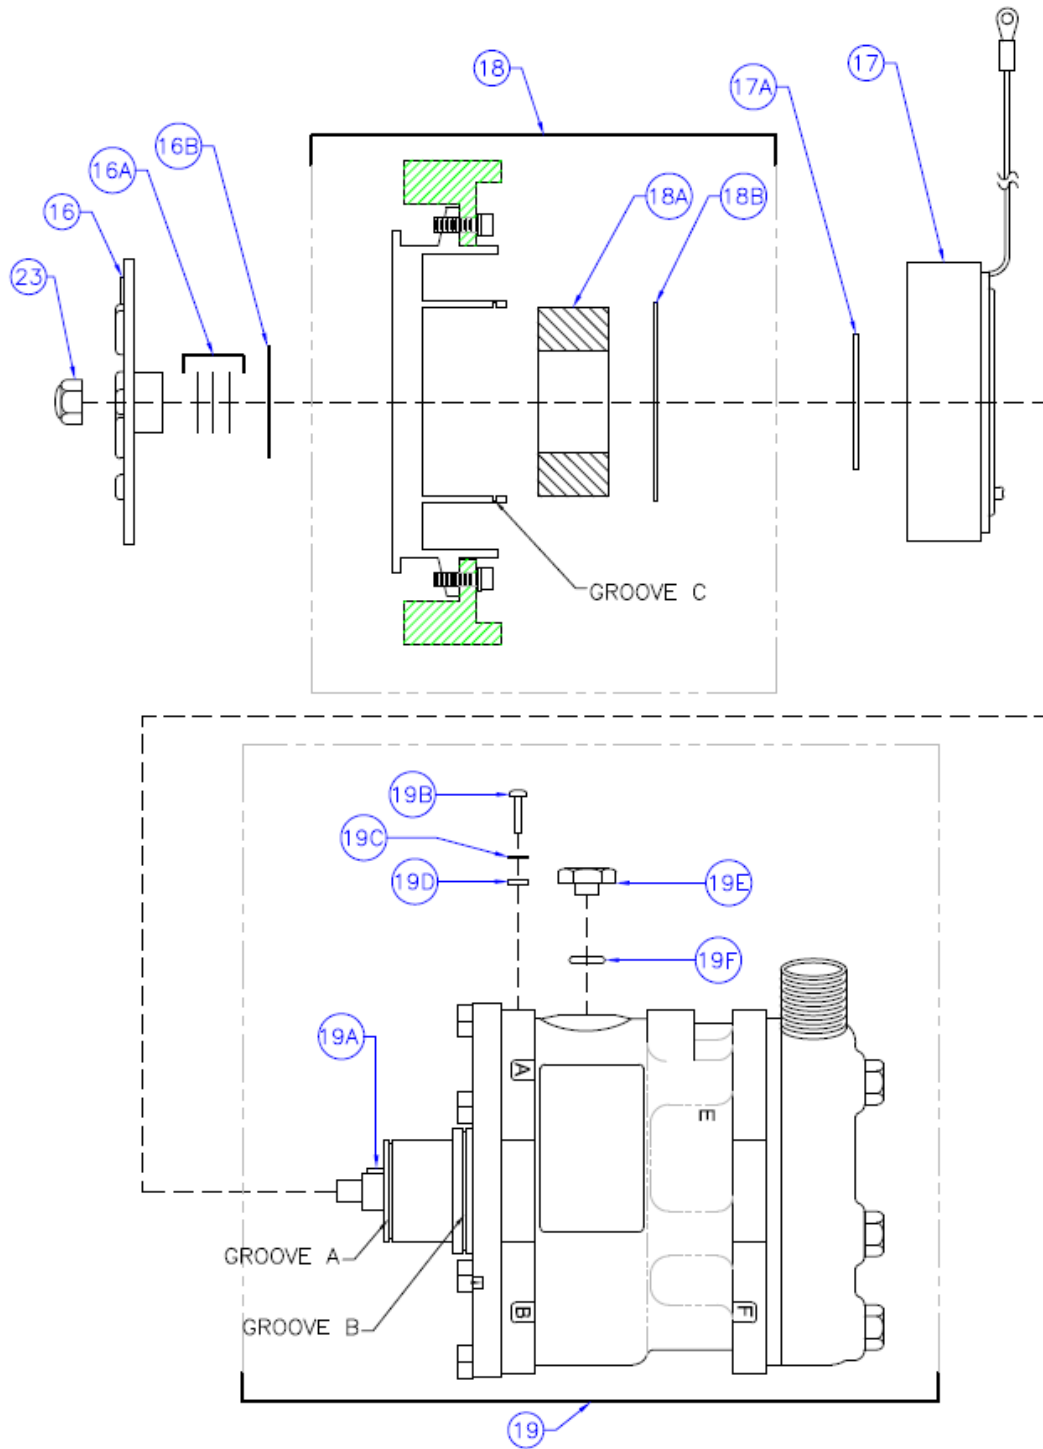
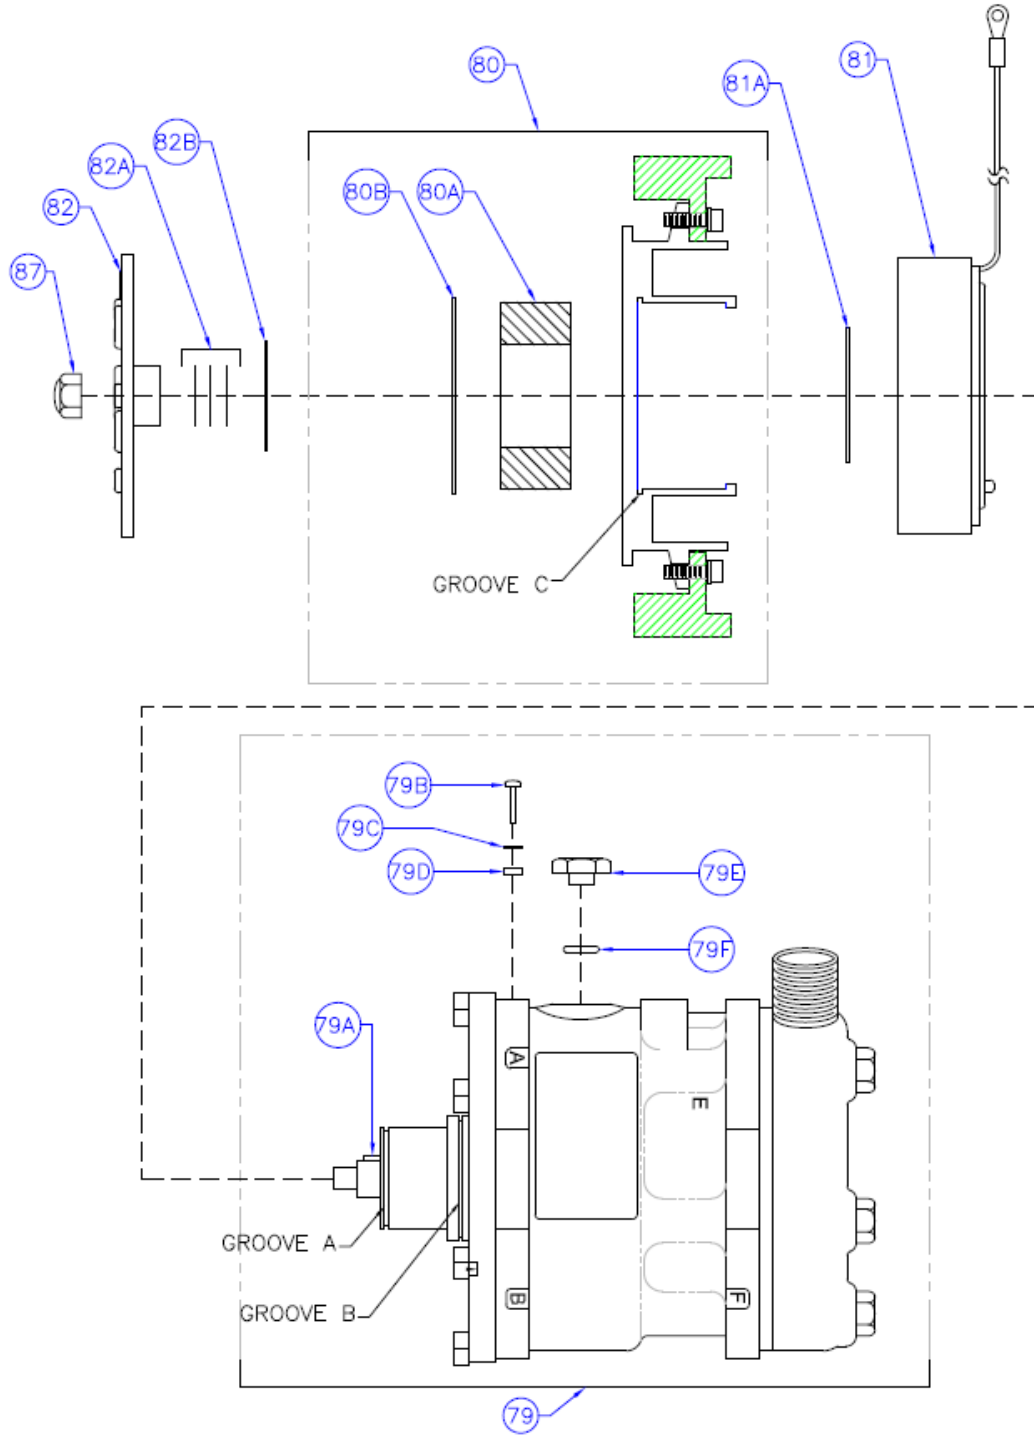

**FIG. 6**
**FIG. 7**
10.2 REVISION 2: Revise Section 3 to include Figure 7 and 8 items. Add Illustration in Section 3.2. Renumber Illustrations 11 & 12 to 12 & 13. Delete Section 8.3. Revise Figure 6 to show MOD L. Renumber items in Figures 7 and 8. Add MOD L. Add Section 9.12. Bar in right margin marks revision locations.